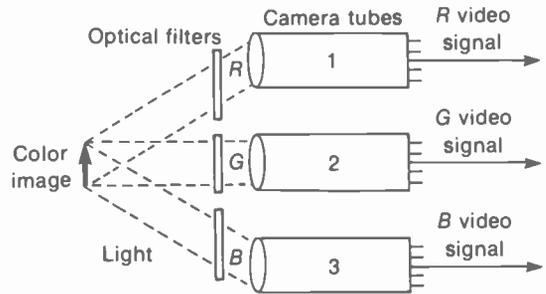

FIGURE 8-1 TELEVISIONING A SCENE TO OBTAIN *R*, *G*, AND *B* VIDEO SIGNALS FOR RED, BLUE, AND GREEN COLORS IN THE SCENE.
**Color voltages.** When the image is scanned in the color camera, separate camera tubes are used for each color, as illustrated in Fig. 8-1. The red, green, and blue in the scene are separated for the camera tubes by optical color filters. As a result, the output from camera tube 1 is red (*R*) video signal with information for only the red parts of the scene. Similarly, tubes 2 and 3 produce green (*G*) video signal and blue (*B*) video signal.